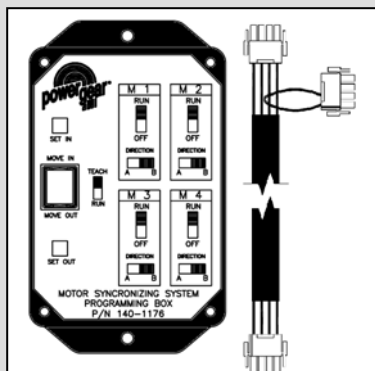

Figure 3
- Programmer/Teach Pendant (see **FIGURE 3**), part number 140-1176 (available for purchase through Power Gear).
6. You are now ready to program the control using the teach pendant (FIGURE 3).